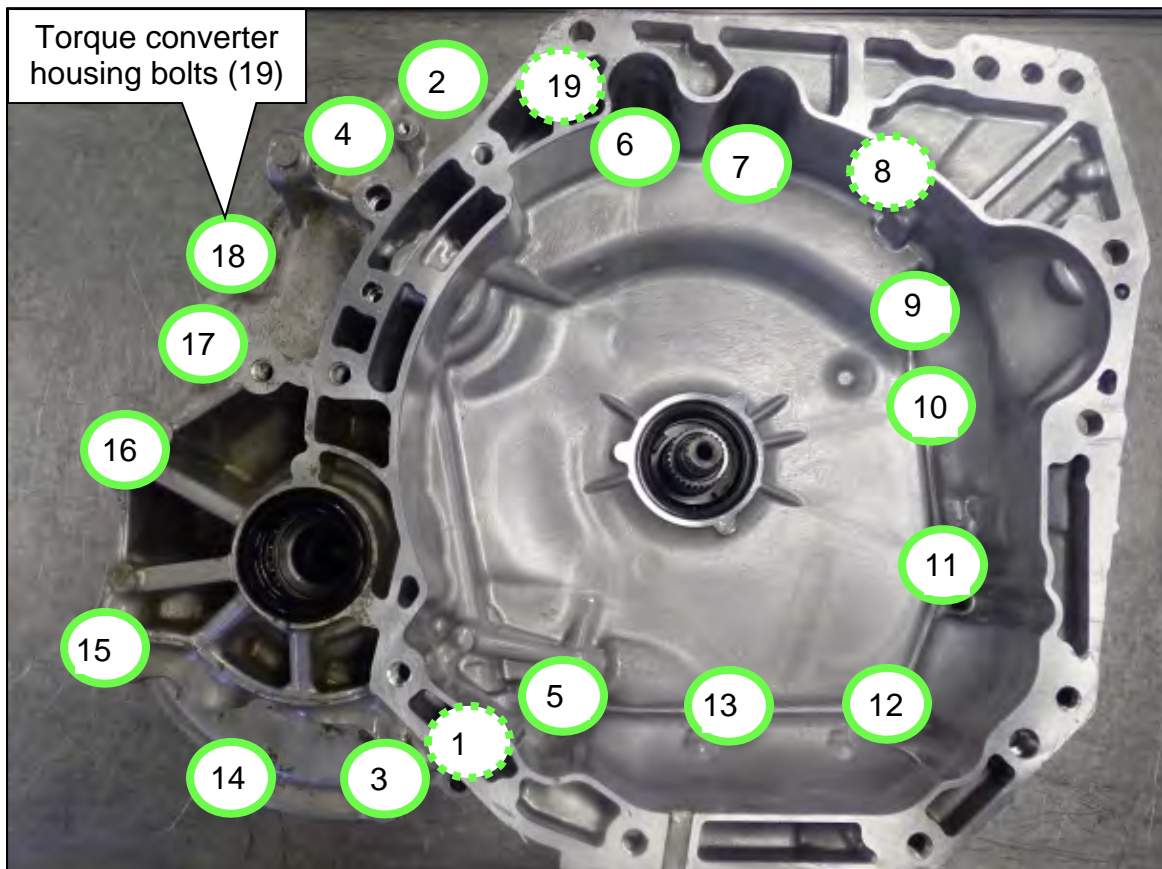

Figure 197
161. Install the torque converter housing onto the CVT case with nineteen (19) new bolts and torque to the following pattern shown in Figure 197.
HINT: The bolts not visible in Figure 197 are indicated with a dotted green circle.